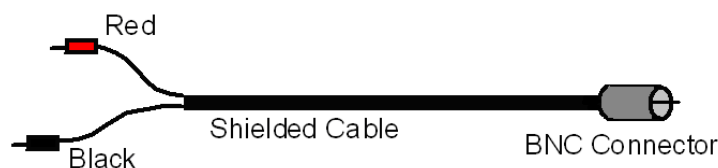

Figure 5.9: Cartoon of BNC-to-banana connector.
- The far right hand side is the OUTPUT of the signal generator. This is where we connect the cables to take the signal to an oscilloscope or an external circuit. We will use the two banana jacks at the bottom (the red and black ones) to connect banana plugs to a cable that has a BNC connector on the other end (the BNC connector is the round metal one that will connect to the “input” on the oscilloscope). The cable with the banana plugs and a BNC connector is shown in Fig. 5.9.